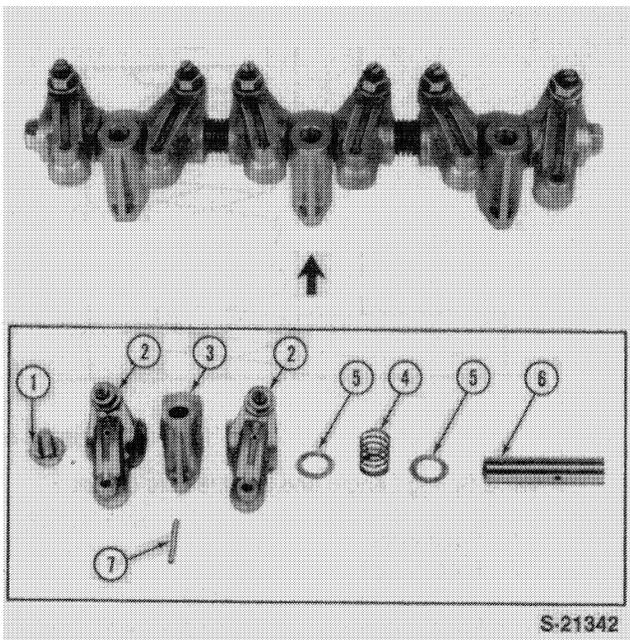

FIGURE 1-41
1. Remove the bolts, 1, at each end of the rocker arm shaft, 6, and remove the rocker arm, 2, pedestal, 3, spring, 4, and shims, 5, Figure 1-41.
Assemble the rocker shaft components on the shaft in the order as shown, Figure 1-41. On assembly observe the following requirements.